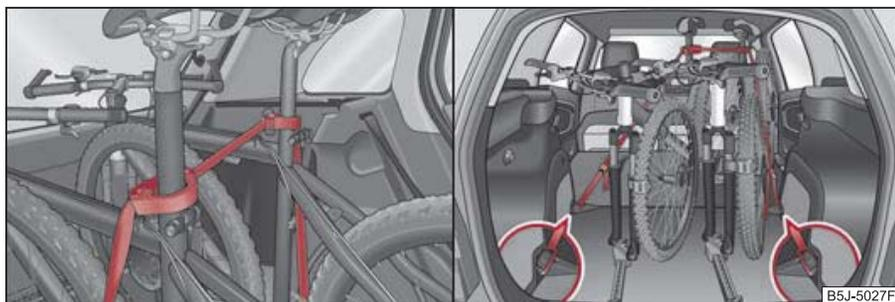

Fig. 72 Securing the bicycles with clamps/securing the bicycles with a strap
- Position the clamp with the rubber part to the front (in direction of travel) as far as possible below the saddle support and close the clamp ⇒ fig. 72.
- When transporting two bicycles tension the strap ⇒ fig. 72 between the saddles, by pushing the bicycles apart.